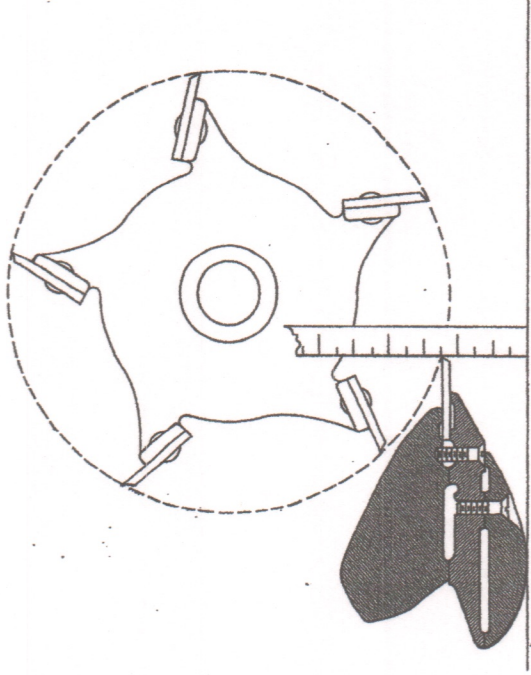
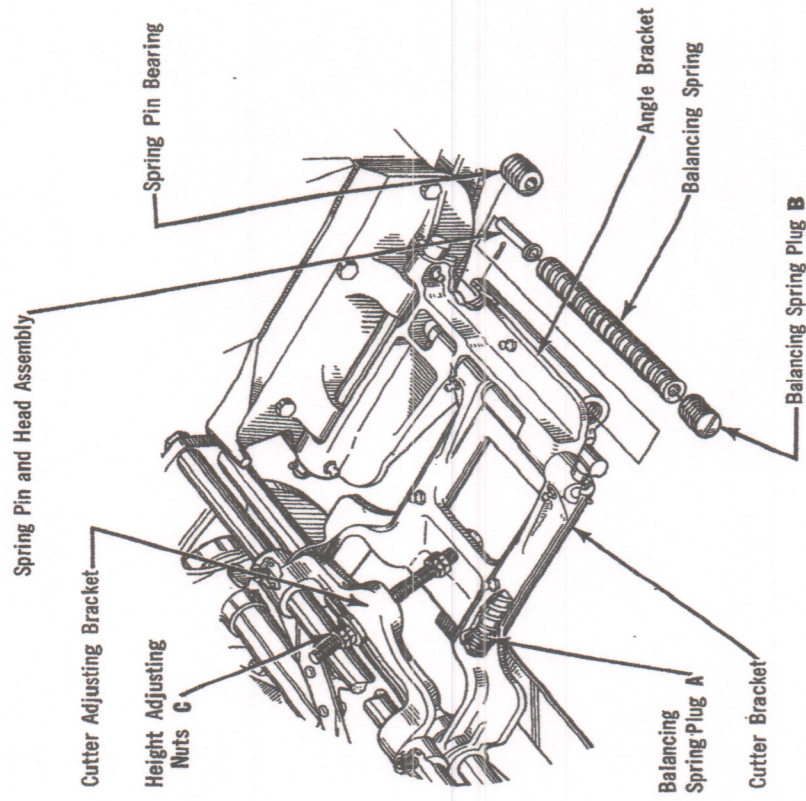

Figure 6. Adjusting Height of Cut.
Figure 8. Counterbalancing Adjustment for Side Cutting Units.
To adjust the side units, place the mower on a level floor and set the side units to match the height of the front unit. Measure from the floor to the cutting edge of the stationary blade with a cutting height gauge or scale as shown in figure 6. The adjustment is made by turning the nuts (C) on the adjusting brackets shown in figure 8. The least variation in height of cut is very apparent in the cut grass. The adjusting screw and lock nuts permit micrometer adjustment for this purpose.
Counterbalancing Side Cutting Units: Compression springs are carried in cages on the under sides of the brackets and cast integral with them, one in the angle bracket and two in the cutter bracket (figure 8). These springs are adjusted by the plugs (A) threaded in the spring cages. Adjust the two springs in the cutter bracket evenly until the cutter unit weighs 20 pounds when lifted by the center of the rear tie rod. Adjust the plug (B) in the angle bracket until the outer end of the cutter unit weighs 9 pounds and the inner end weighs 11 pounds. This is done by screwing in the plug to lighten the unit or back out the plug to make it heavier.